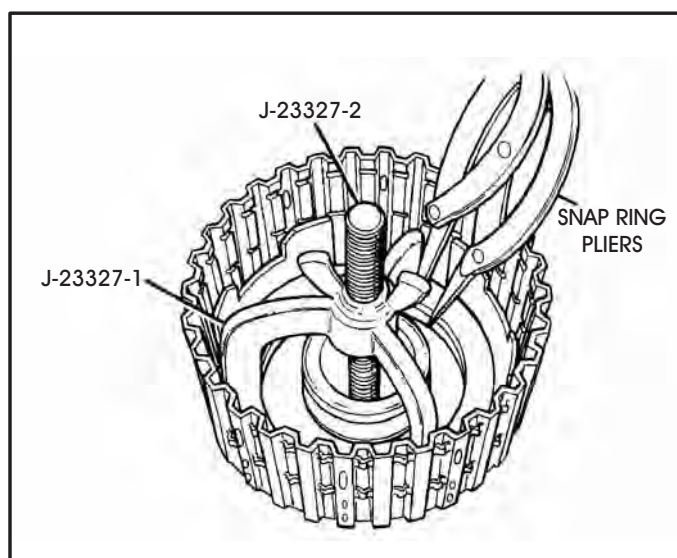

Figure 121
20. Compress 3rd clutch return spring and install the snap ring, as shown in Figure 121.